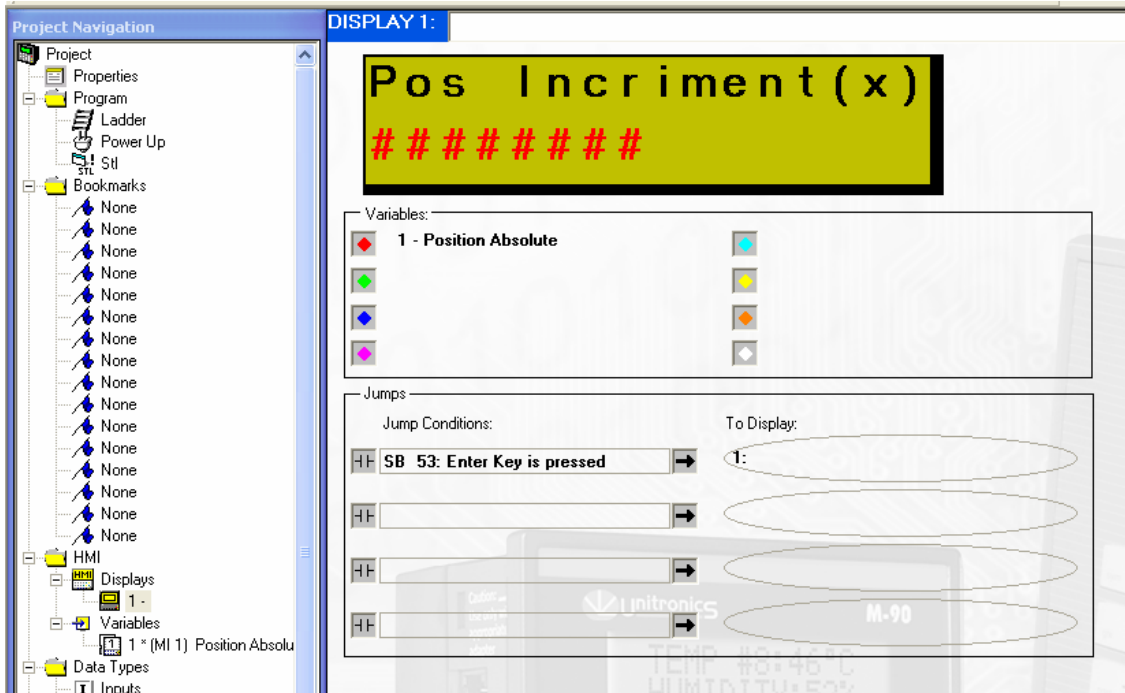

Figure 9: Screen shot of the Unitronics Jazz PLC screen configuration.
5) Next, the PLC screen must be set up. Click on ‘Displays’ in the Project Navigation tree in the HMI folder. The configuration screen seen in Figure 9 will appear.